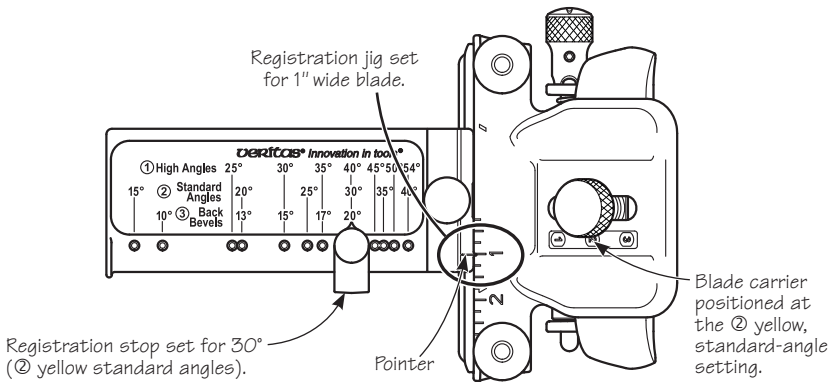

Figure 4: Registration jig installed.
Slide the registration jig onto the dovetail feature along the front of the blade carrier. Set the registration jig such that the pointer on the top jaw of the jig aligns with the approximate width of your blade on the scale on the top of the blade carrier (see **Figure 4**). Tighten the registration jig clamp knob only finger tight. Do **not** overtighten as it is desirable to have some up and down movement of the registration jig to allow it to easily slide off the blade when loosened.
Set the registration stop to the desired bevel angle, aligning it with the scale of your choice. The registration stop in **Figure 4** is set for a 1" wide blade and a 30° bevel angle using the ② (yellow) standard-angle configuration.